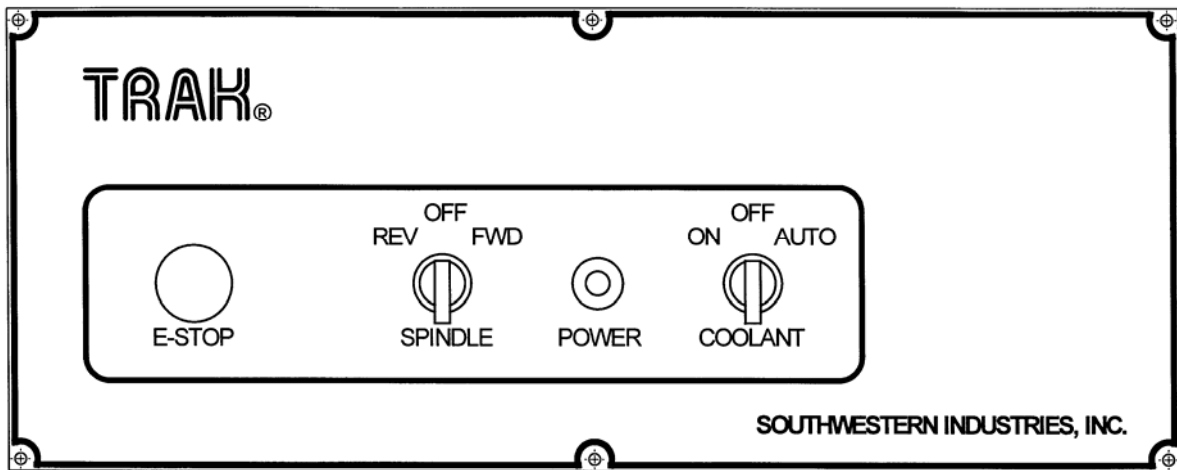

Figure 3
3.5 TRL Switch Panel *(Figure 3)*
4.3 Spindle Forward/Off/Reverse (Figure 3)